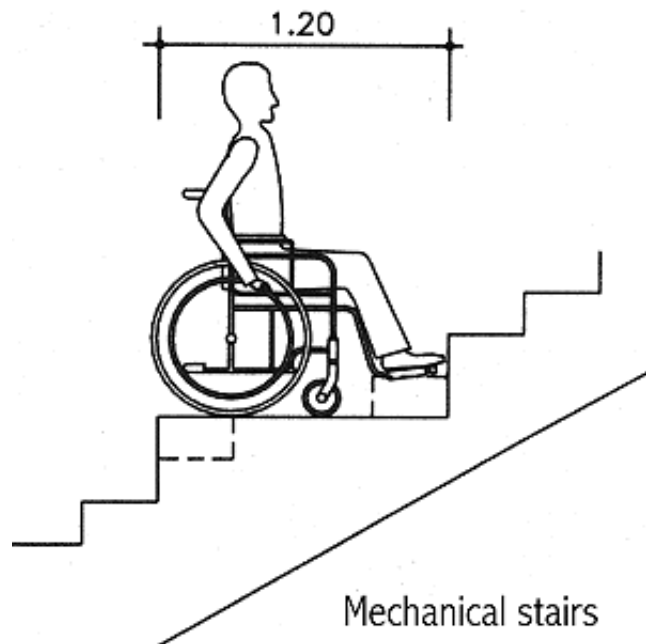

Fig. 6
- Mechanical stairs can be provided with an adaptable tread at least 1.20 m long, if they are to be used by persons confined to wheelchairs (fig. 6).